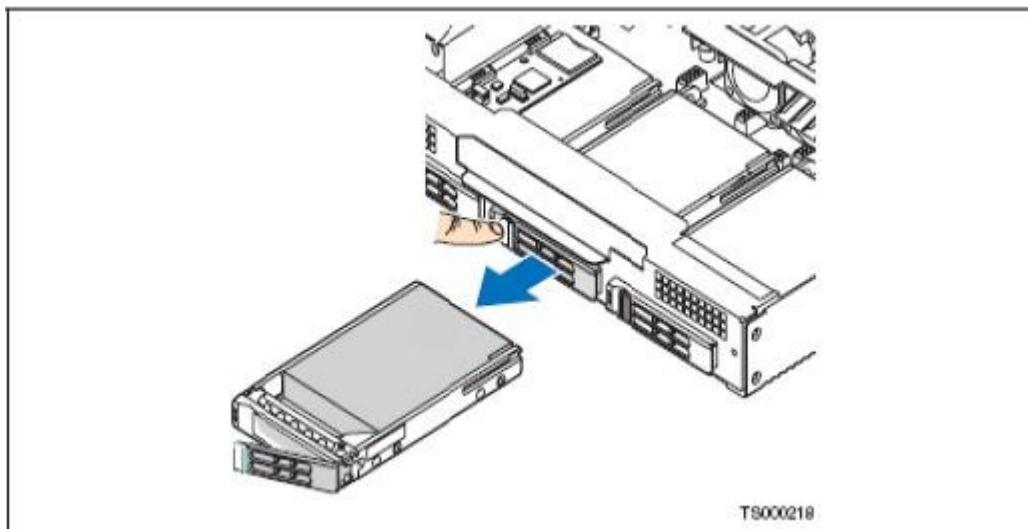

Figure 22: Removing a Drive Tray from the Chassis
3. Pull the drive tray assembly out of the chassis. (*Figure 22: Removing a Drive Tray from the Chassis*).